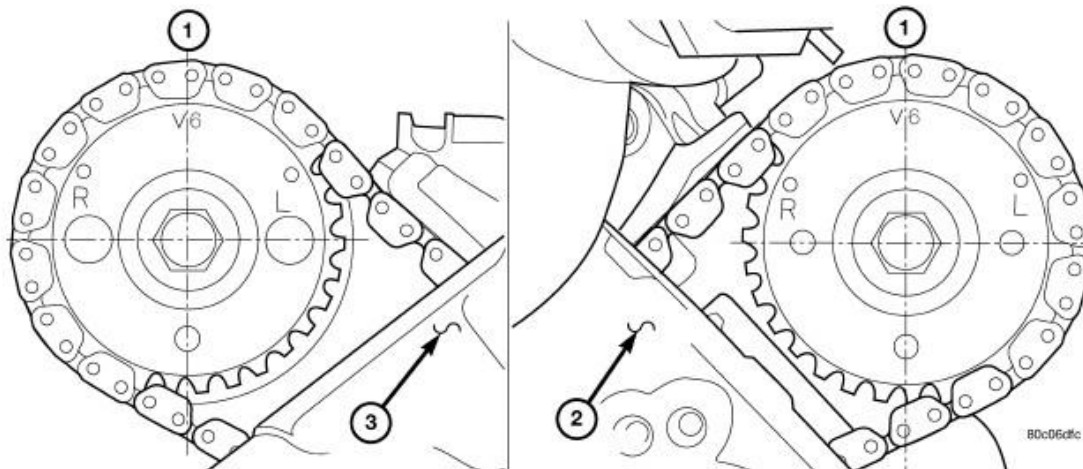

Fig. 58: Camshaft Sprocket V6 Timing Marks
7. Position the secondary chain (2) onto the camshaft drive gear, making sure one marked chain link is on either side of the V6 mark. Refer to **Fig. 57**. (1) on the gear then using Special Tool (special tool #8428A, Holder, Camshaft) Camshaft Wrench, position the gear onto the camshaft. Refer to **Fig. 58**.